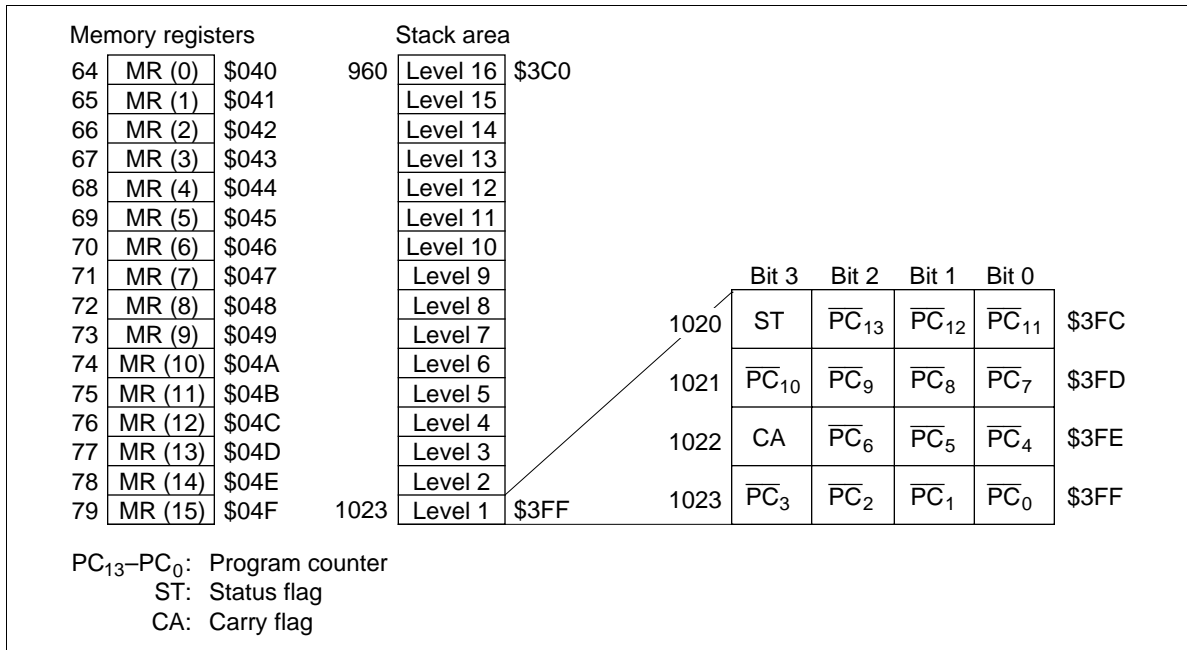

Figure 4 Configuration of Memory Registers and Stack Area, and Stack Position
Data Area (HD404324, HD404324U, HD404326, HD404326U, HD404328, HD404328U: \$040–\$04F and \$070–\$11F, HD4074329, HD4074329U: \$040–\$04F and \$070–\$21F): The memory registers (MR), which consist of 16 digits (\$040–\$04F), can be accessed by the LAMR and XMRA instructions. Its structure is shown in figure 4.
Stack Area (\$3C0–\$3FF): Used for saving the contents of the program counter (PC), status flag (ST), and carry flag (CA) at subroutine calls (CAL, CALL) and interrupts. This area can be used as a 16-level nesting subroutine stack in which one level requires four digits. The data to be saved and the save conditions are shown in figure 4.